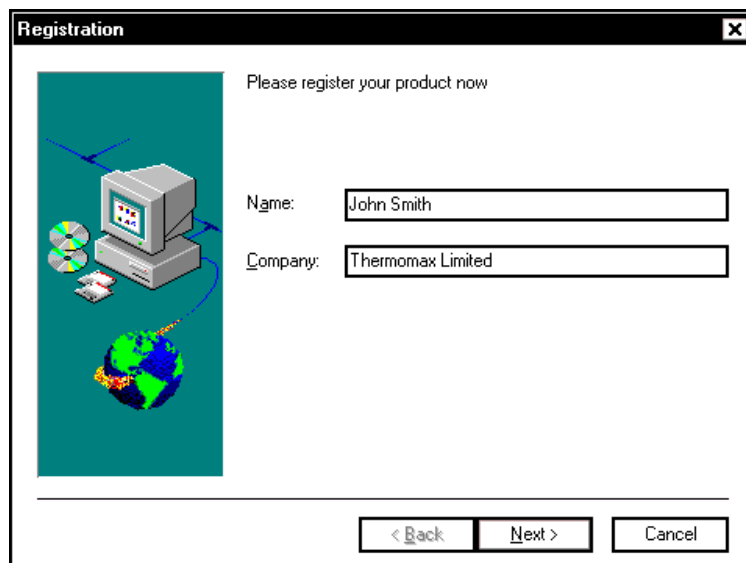

Figure 1.5, User Registration
9. The user will then be prompted to enter the username and company to that the software is licensed. This information must be entered otherwise the installation program will not proceed. **Figure 1.5** shows the dialogue into which this user information must be entered.